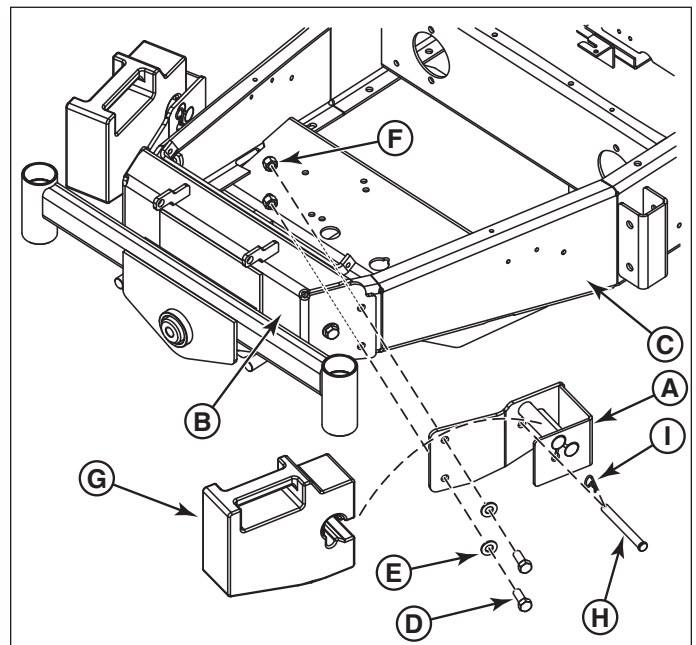

Figure 2. Rear Weight Installation
2. Position the right-hand weight mount (**A**, **Figure 2**) so that it's holes align with the holes in the tail wheel mount (**B**) and frame of the unit (**C**) and secure with two (2) 1/2-20 X 1-1/2 bolts (**D**), 1/2 SAE washers (**E**), and 1/2-20 hex nylon lock nuts (**F**).